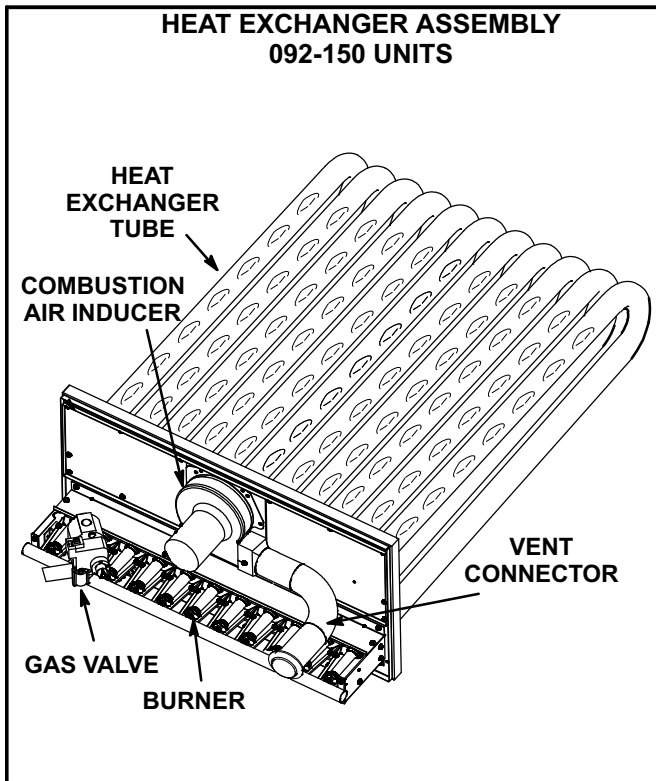

FIGURE 5
- 5- Remove and retain two screws from the bracket supporting the vent connector before removing vent connector. See figure 5. 024-150 units do not have a support bracket.